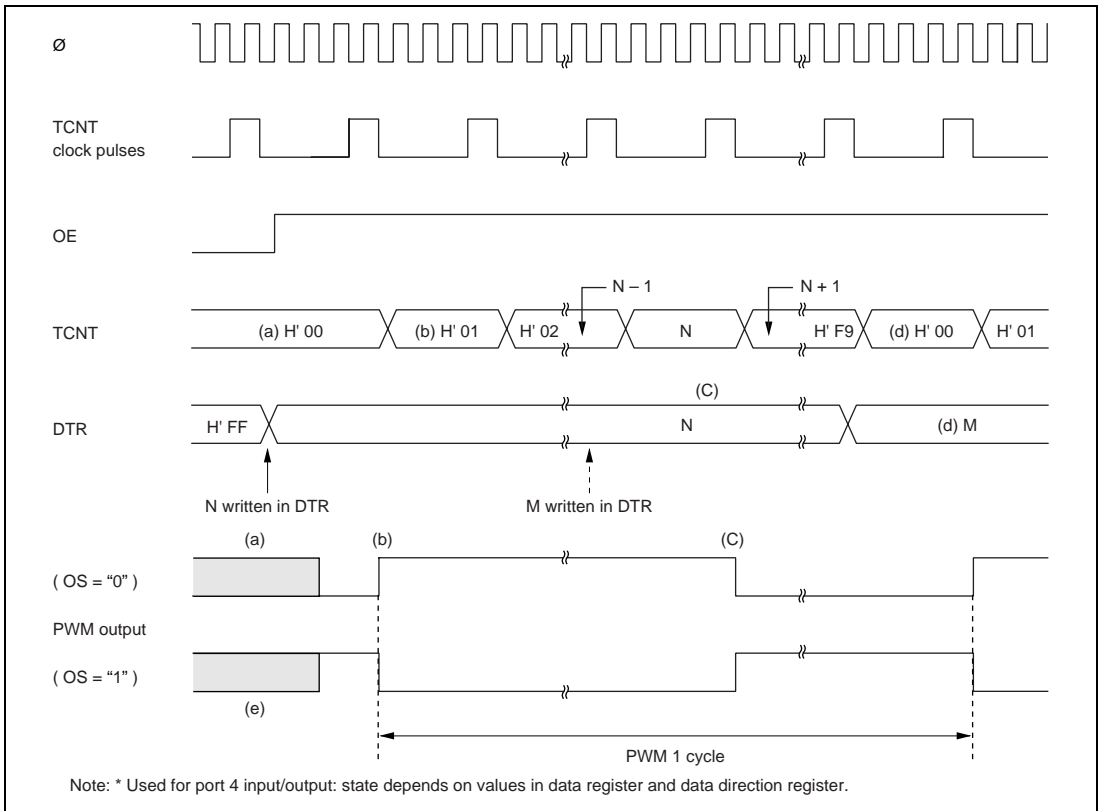

Figure 9.3 PWM Timing
Figure 9.3 is a timing chart of the PWM operation.
(1) Positive Logic (OS = "0")
❶ **When (OE = "0") – (a) in Figure 9.3:** The timer count is held at H'00 and PWM output is inhibited. [Pin 4₆ (for PW0) or pin 4₇ (for PW1) is used for port 4 input/output, and its state depends on the corresponding port 4 data register and data direction register.] Any value (such as N in figure 9.3) written in the DTR becomes valid immediately.
❷ When (OE = "1")
- The timer counter begins incrementing. The PWM output goes High when TCNT changes from H'00 to H'01, unless DTR = H'00. [(b) in figure 9.3]
- When the count passes the DTR value, the PWM output goes Low. [(c) in figure 9.3]
iii) If the DTR value is changed (by writing the data “M” in figure 9.3), the new value becomes valid after the timer count changes from H'F9 to H'00. [(d) in figure 9.3]
(2) Negative Logic (OS = “1”) - (e) in Figure 9.3: The operation is the same except that High and Low are reversed in the PWM output. [(e) in figure 9.3]